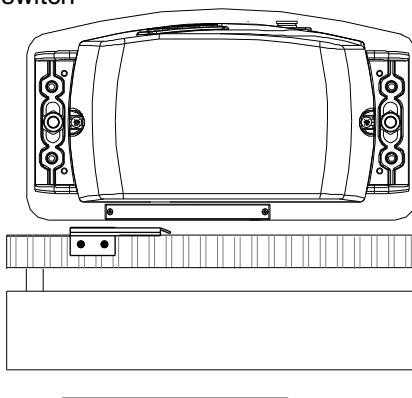
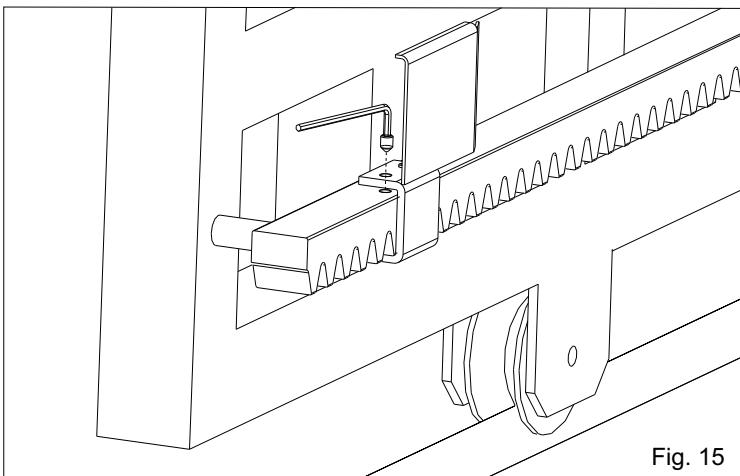
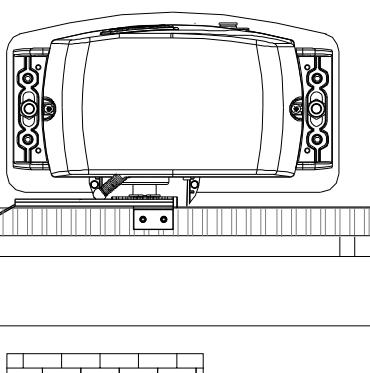

Fig. 13
Fig. 15
Fig. 12
- Place the small plate on the gear rack so that the limit switch is (small lever in case of mechanical limit switch (Fig. 12); small pointers placed on the upper part in case of inductive limit switch (Fig. 13)) in correspondence of pointX which is placed 50 mm from the folded side of the small plate (Fig. 14) and fix it with the delivered screws (Fig. 15 - Fig.16).
- Place the small plate on the gear rack so that the limit switch is in correspondence of pointX which is placed 50 mm from the folded side of the small plate (Fig. 14) and fix it with the delivered screws (Fig. 15 - Fig.16).